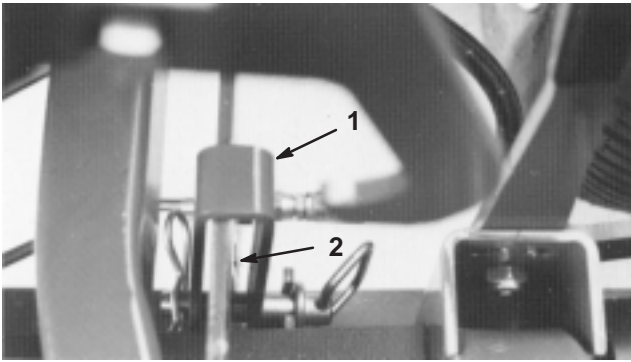

Figure 13
1. Lower center and wing cutting units to the ground; then raise center cutting unit slightly, until rear deck straps hang freely on wear block of lift arm brackets (Fig. 13). Stop engine after cutting unit is raised.